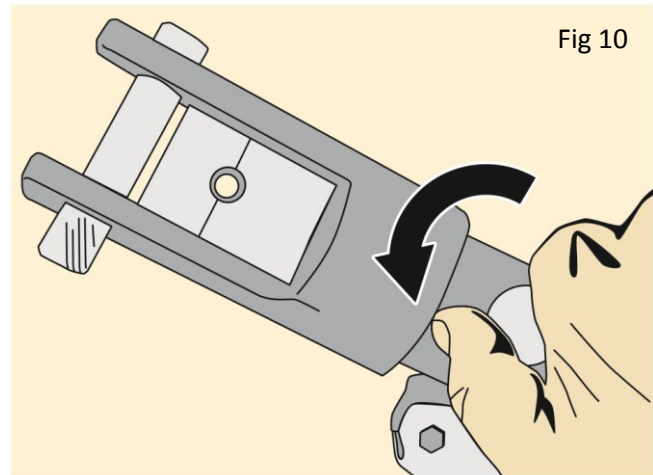

Fig 10
- a) Turn the knob on the Cable Crimper counterclockwise to open the jaws and position the fitting 1/8" from the end of the fitting (Fig. 10).